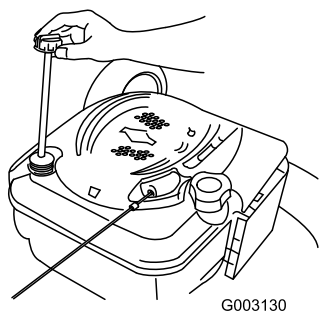

Figure 36
2. Remove the dipstick (Figure 36).